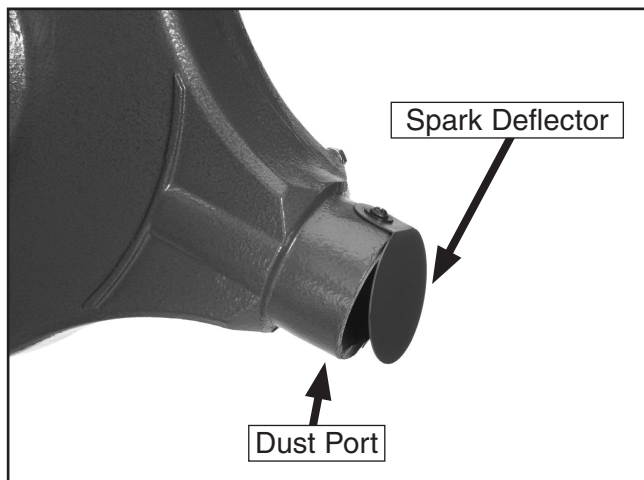

Figure 5. Dust port.
2. Fit the dust hose over the dust port, as shown in **Figure 5**, and secure in place with a hose clamp.